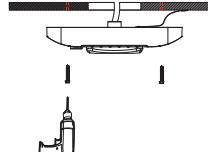

FIGURE 3
(3) Fixed the light fixture to the ceiling with M6.3x60MM self-tapping self-drilling screws. (FIGURE 3)